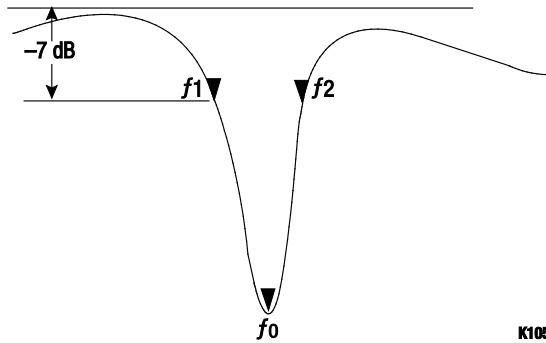

Figure 3. Self Resonant Frequency (SRF)
5. Define the resonant frequency at the critical coupled condition or at the point of maximum return loss (as shown in Figure 3).